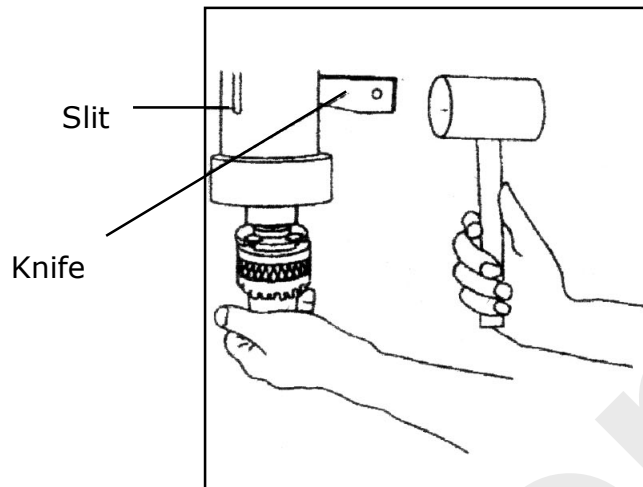

Figure 28 – Dismounting the spindle.
- Hold the spindle with one hand, while tapping the knife with the hammer, as shown in figure 28.